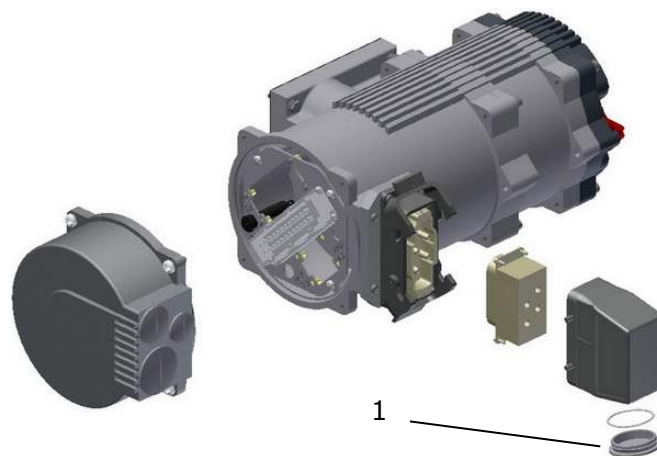

Figure 14: size 2 with the additional plug, 1...M40x1,5
- size 2: connection of the control signals is the same as size 1, the connection of the power supply is made by an additional plug (see Figure 14), both plugs are with screw connection.